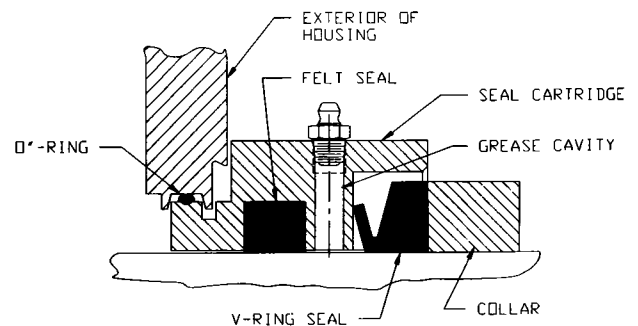

Figure 7
11. Locate collar (above 7" bore) at the side of each seal cartridge as shown on Figure 7. Tighten set screw to 120 in.-lbs.